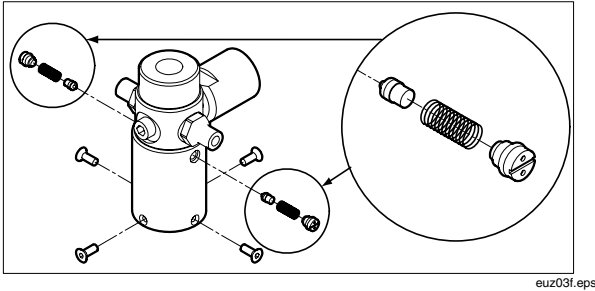

Figure 3. Cleaning the Valve Assembly
2. Gently remove the spring and o-ring assembly. Take care when removing check valve as it contains several small components. See Figure 3.